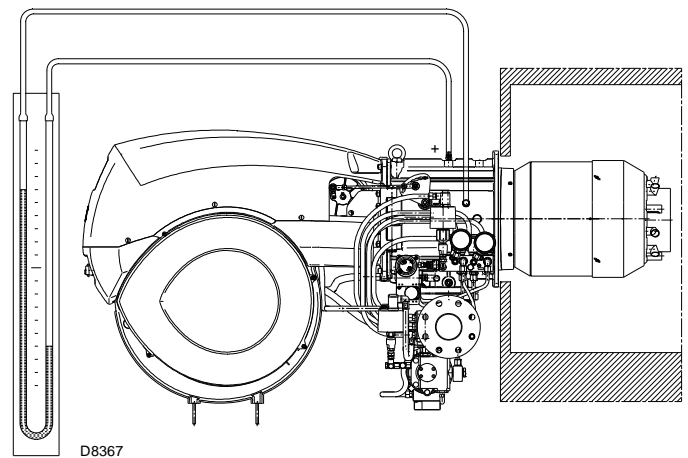

Fig. 32
- Fit a U-type manometer or a differential pressure gauge (Fig. 32), with the (+) fitting on the header gas pressure tap and (-) fitting in the combustion chamber.
The arrival of gas at the sleeve is indicated by the U-type manometer (Fig. 32).